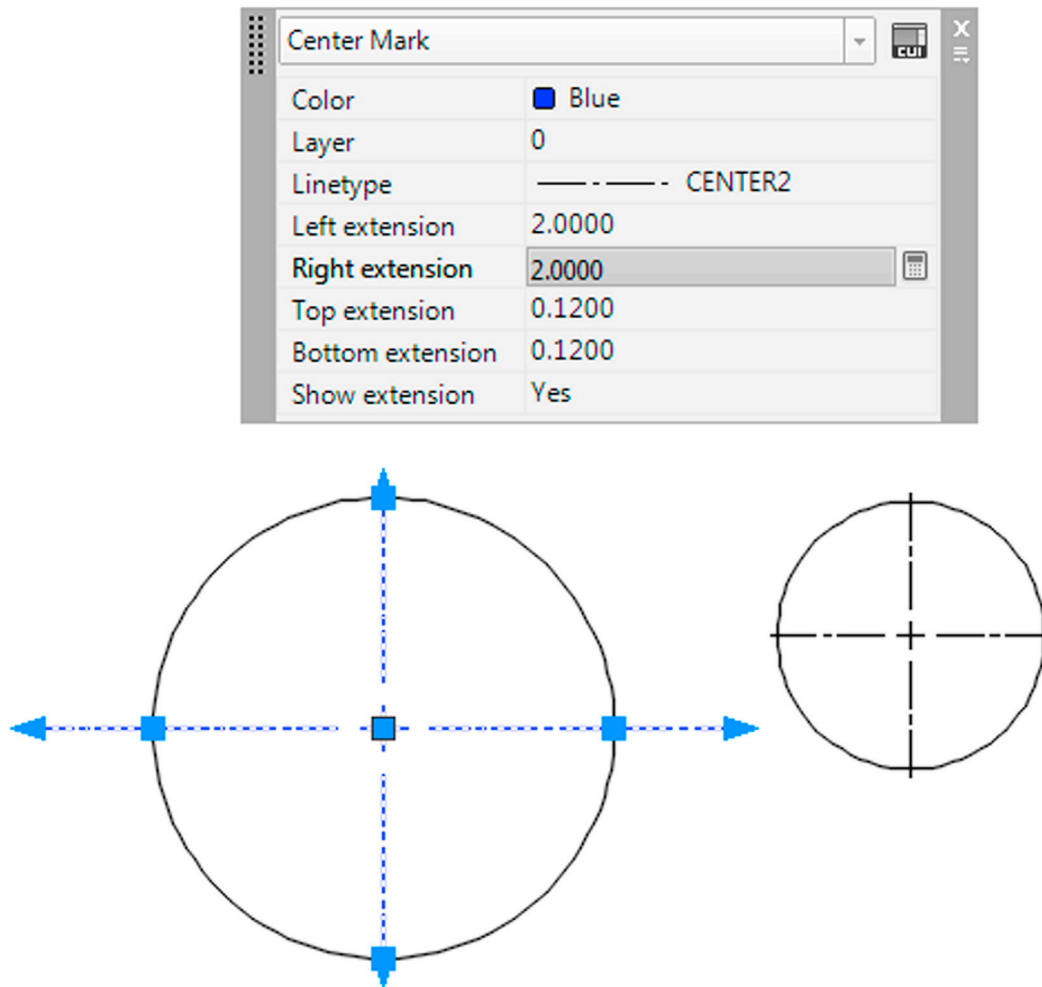

FIGURE 6.41 Manual modification of centerlines.
These centerlines are editable via grips, and of course, additional options are available to customize them further. In Fig. 6.41 a double-click of the centerline brought up the options palette, and two of the extensions have been changed to a new length and color.
- **CENTERLTYPE, CENTERLAYER, and CENTERLTSCALE:** These specify the linetype, layer, and linetype scale, respectively. Enter the desired type, layer, and scale when promoted. The settings apply globally to all future center marks or centerlines. The first two items can also be entered locally on a case-by-case basis via the properties palette seen in Fig. 6.41.